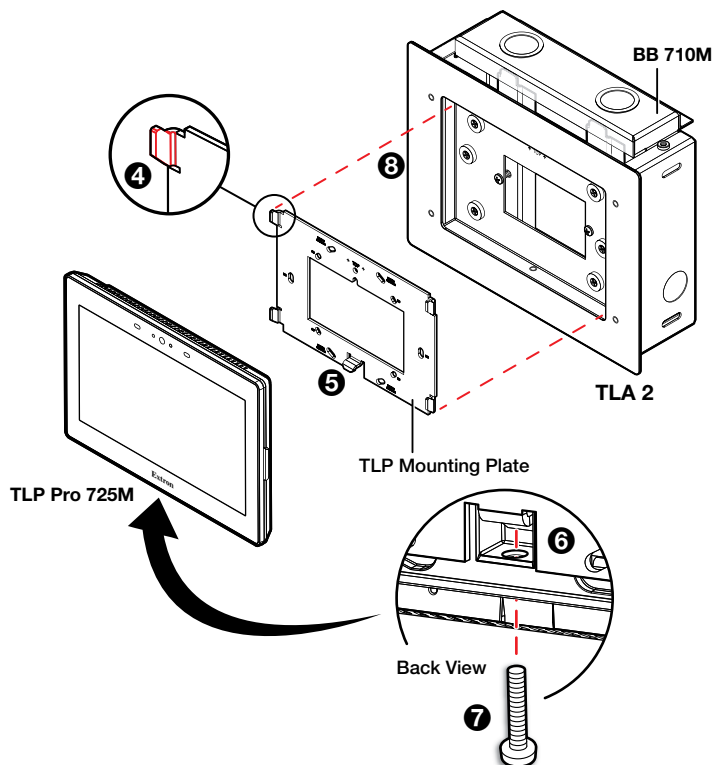

Figure 4. Mounting a Touchpanel to the TLA 2
1. The touchpanel mounting plate has four hooks (see figure 4, **4**), one on each corner. Position the touchpanel so that these hooks fit into the four slots on the rear panel of the touchpanel (see the *TLP Pro 525, 725, and 1025 Series User Guide*).